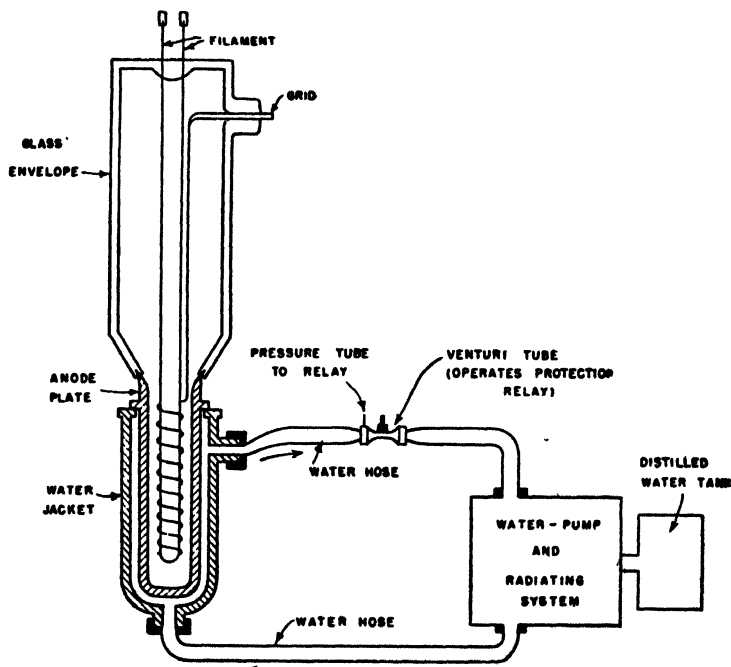

FIG. 4-14.—Water-cooled tube with water-circulating system.
*Ans.* Figure 4-14 illustrates a longitudinal cross-section of a water-cooled transmitting triode.
*Ans.* Figure 4-14 illustrates how a single-stage water-cooled radio-frequency power amplifier should be connected and direction of water flow.